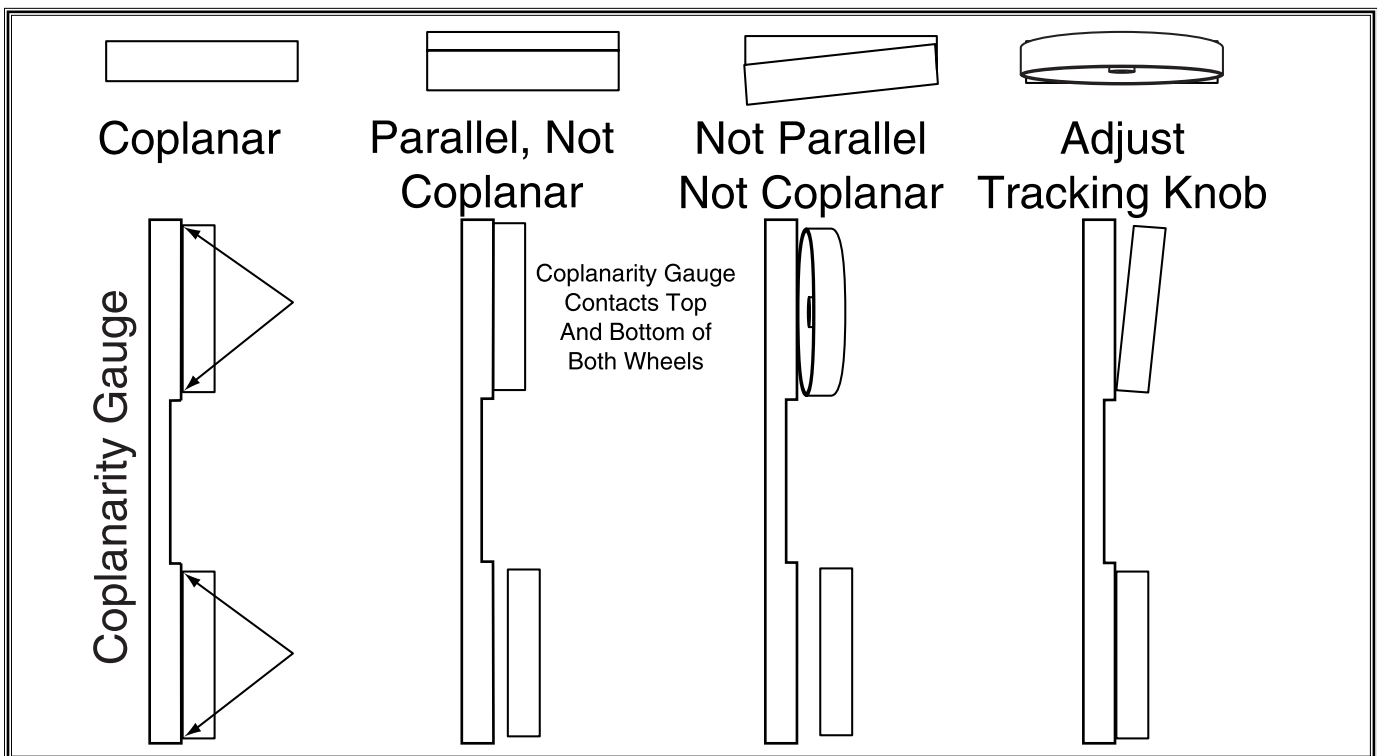

Figure 36. Coplanarity diagram.
8. Figure 36 shows the positions of the wheels when they are coplanar. When your wheels are coplanar, readjust the guide blocks and rear support bearings, and replace the wheel covers.